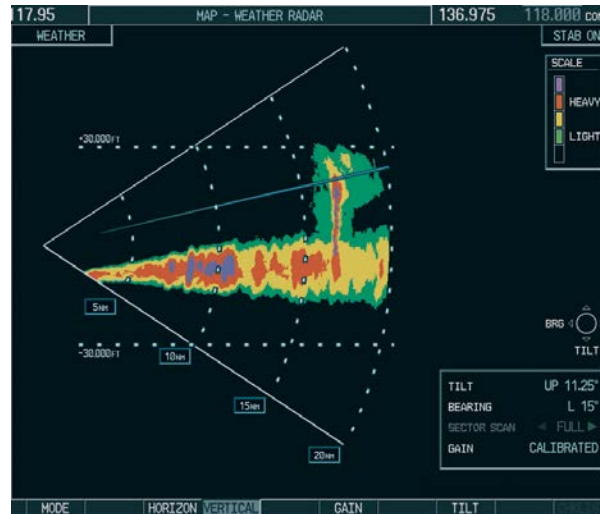

Figure 6-108 Vertical Scan Display
- 4) Press the **VERTICAL** Softkey. A vertical slice of the selected area is displayed (Figure 6-108).